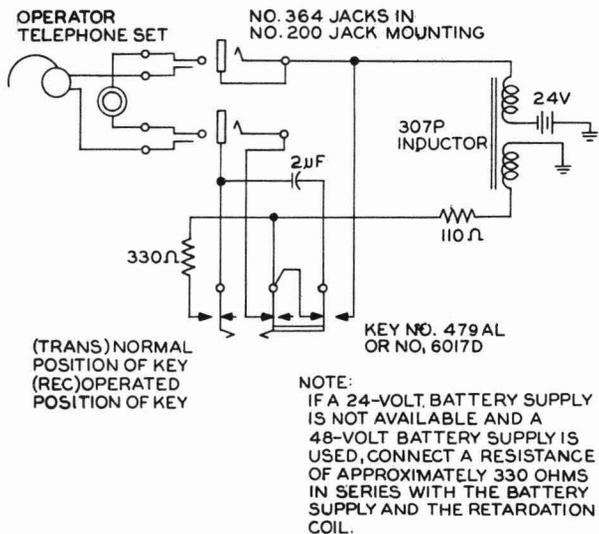

Fig. 1—Testing Circuit for Use Where a Patching Cord Test Set Is Not Available
- 2.07 Patching cord test set per SD-90430-01, SD-21502-01, SD-21338-01, SD-95665-01, ES-239451, or equivalent testing equipment as shown in Fig. 1.